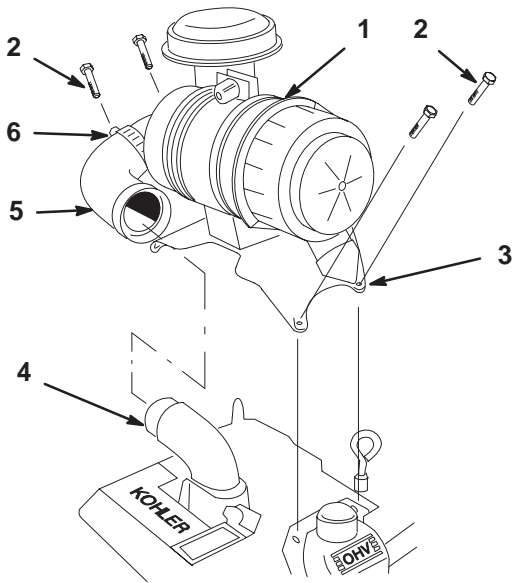

Figure 7
1. Remove air cleaner from crate. Keep air cleaner and bracket together. (Fig. 7).
2. Remove the top two valve cover mounting screws from both valve covers (Fig. 7).
- Place air cleaner onto engine and align holes in air cleaner bracket with holes in valve covers (Fig. 7).
- Install valve cover screws into air cleaner bracket and valve covers (Fig. 7).
- Remove plastic plugs from air intake elbow on engine and air cleaner hose (Fig. 7).
- Install hose to air intake elbow on engine and air cleaner. Tighten hose clamps to secure the hose connections (Fig. 7).